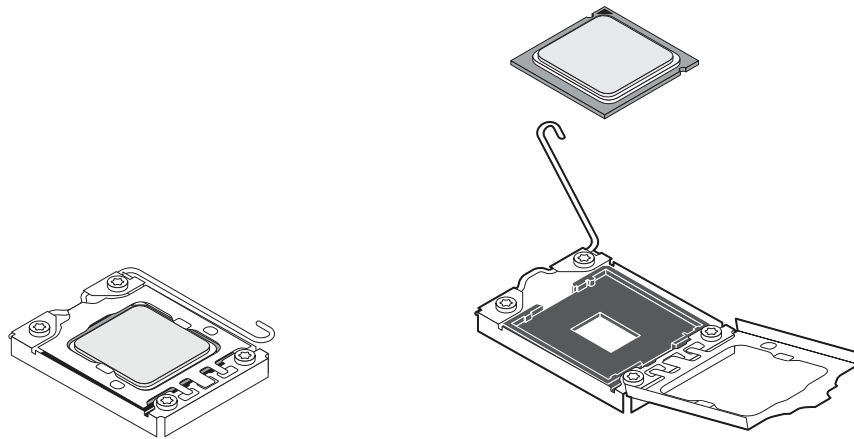

FIGURE 20: Removing/replacing the CPU
- 9 Open the load plate (see Figure 20).
3 Place the CPU in the socket (see Figure 20 on page 46).